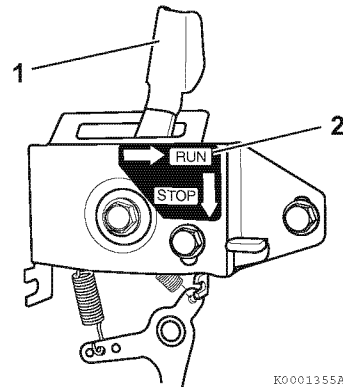

Figure 29
5. Move the engine control lever (1, **Figure 29**) to the RUN position (2, **Figure 29**).